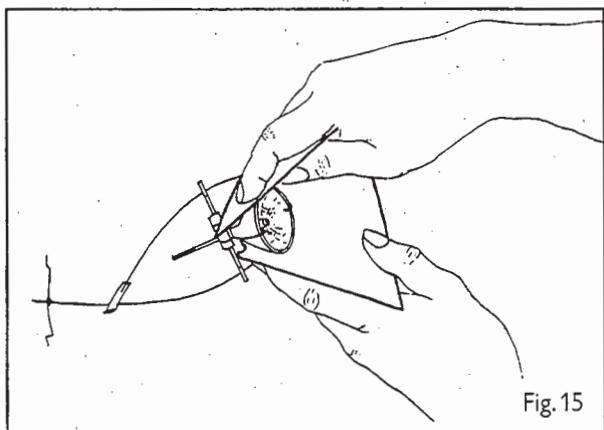

Fig. 15
- With the mouth of the reflector facing you, place the shade over the reflector so that it forms a funnel shape. Insert the tongue at the edge of the shade into the slit (Fig. 15). Ensure that the tongues on the shade are pointing towards one of the two cables to which the elements are attached.
Remove the shade and unhook the retaining clip from the reflector. Remove the spent bulb from the holder and fit the replacement, pushing it in until it reaches the stop. If you have purchased a bulb without a protective glass cover, take care not to touch the coated inner surface of the reflector. Replace the retaining clip over the reflector, ensuring that the hooks firmly grasp the lower edge. Replace the shade (see description for Fig. 15).